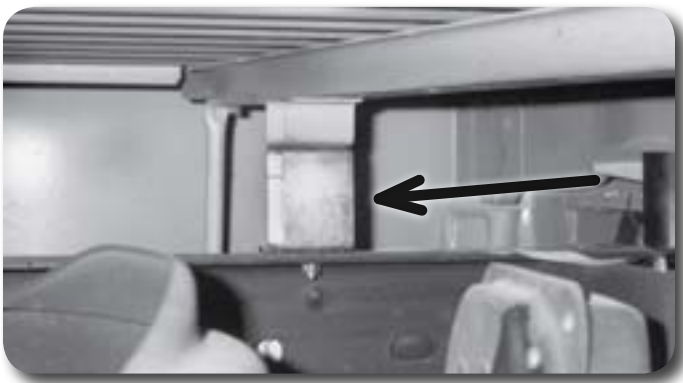

Figure 16
86. Place the metal body spacers under the cross supports of the bed **Figure 16**. There are four on long beds and two on short beds. Attach the blocks with 5/16" x 1" bolts, nuts, and 5/16" SAE washers.